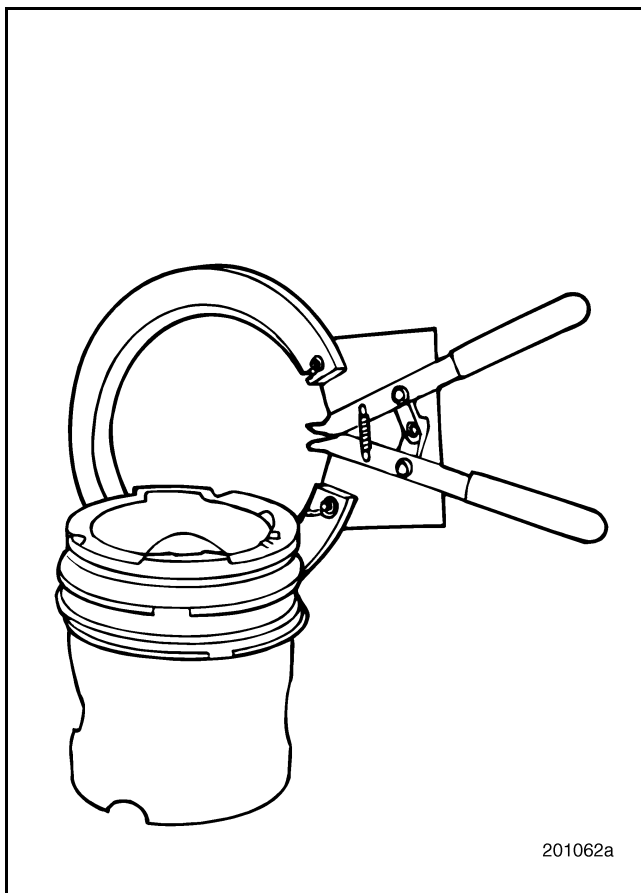

Figure 234 — Piston Ring Removal
1. Using piston ring expander PT6587, remove the piston rings (Figure 234).